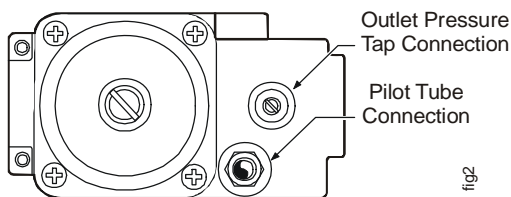

Figure 2: Underside of Valve with Direct-Acting Regulator
7. Connect the pilot tubing (when necessary) to the threaded pilot connection on the underside of the valve body (Figure 2) and run the tube to the pilot burner within the appliance. Connect the pilot tube to the valve with an optional compression fitting.
10. Determine the outlet pressure by applying power to the valve and energizing both valve solenoids. Use the outlet pressure tap connection on the underside of the valve body to monitor the outlet pressure. The outlet pressure tap is a bleed hole with a cast spigot, sealed with a threaded brass needle screw (Figure 2). To monitor the outlet pressure, turn the screw in a counterclockwise direction one or two turns and fit a 9 mm diameter flexible tube over the cast spigot. After all valve adjustments have been made and the desired outlet pressure has been obtained, remove the flexible tube. Tighten the needle screw by turning it clockwise with a slotted screwdriver until hand tight, sealing the bleed hole.